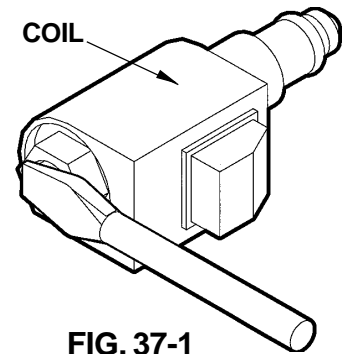

FIG. 37-1
1. Check if Solenoid Valves are constantly energized by touching a screwdriver to the top nut of the Solenoid (**FIG. 37-1**). Try pulling the screwdriver away from the solenoid. If the solenoid nut attracts the screwdriver (magnetically) without pushing the toggle switch, the control circuit is operating incorrectly. Check if toggle switch, wiring or coil are faulty.